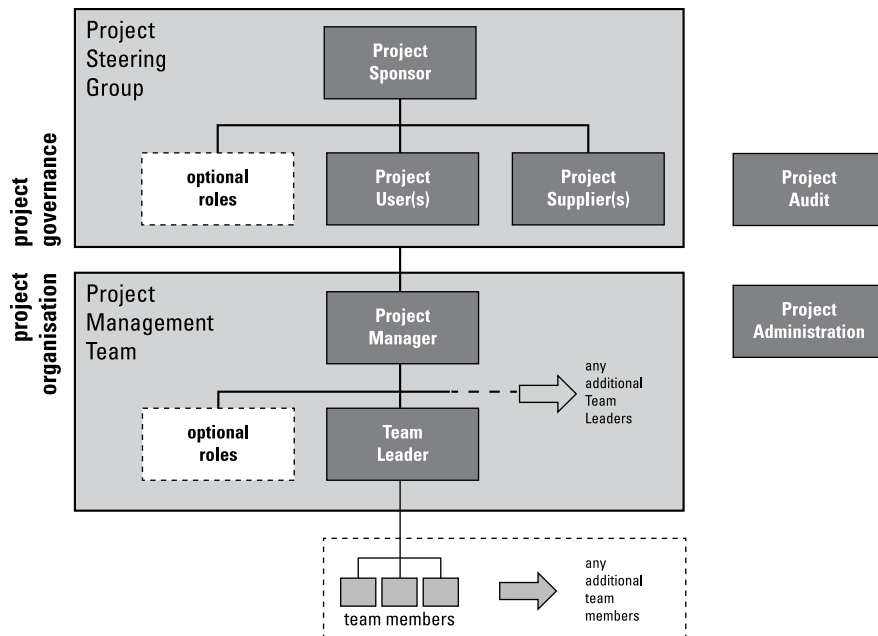

FIGURE 12-2:
Figure 12-2 outlines the roles. You can have all of the roles filled with relatively few people if you need to. You can get models for project structure from many places, but this example comes from a project method that I wrote with a friend and colleague, though is not in circulation now that these methods have gone out of fashion. As the method is ISO (International Standards Organization) compliant, the diagram is robust and useful. Although you can see that this is more detailed than the simple example in Figure 12-1, it's also very flexible.
As you look down the structure in Figure 12-2, the *Project Manager* is the first role in the Project Management Team which is the management level dealing with the day-to-day work of the project. The Project Manager is responsible for managing the project day-to-day and is accountable to the PSG. The Project Manager has specific responsibilities to plan the project, control it and manage the staff resource. Normally a project has a number of teams, so the direct team management will be done by Team Leaders, but the Project Manager still has an important function to motivate and direct the project staff.
- There may be an additional role on the PSG (see the 'optional roles' box in the diagram in Figure 12-2), which is a programme liaison person.